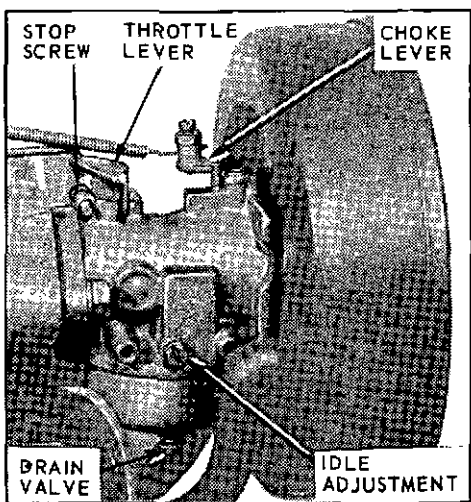

Fig. 18, CARBURETOR ADJUSTMENT
#### CARBURETOR, Fig. 18.
**NOTE:** Read **Important Note** with reference to Fig. 18 on page 6, for adjusting engine speed to 1800 r.p.m. for 6° advance timing.
tachometer will have to be used, and the speed set at 1800 r.p.m. in the following manner, and with reference to Fig. 18.